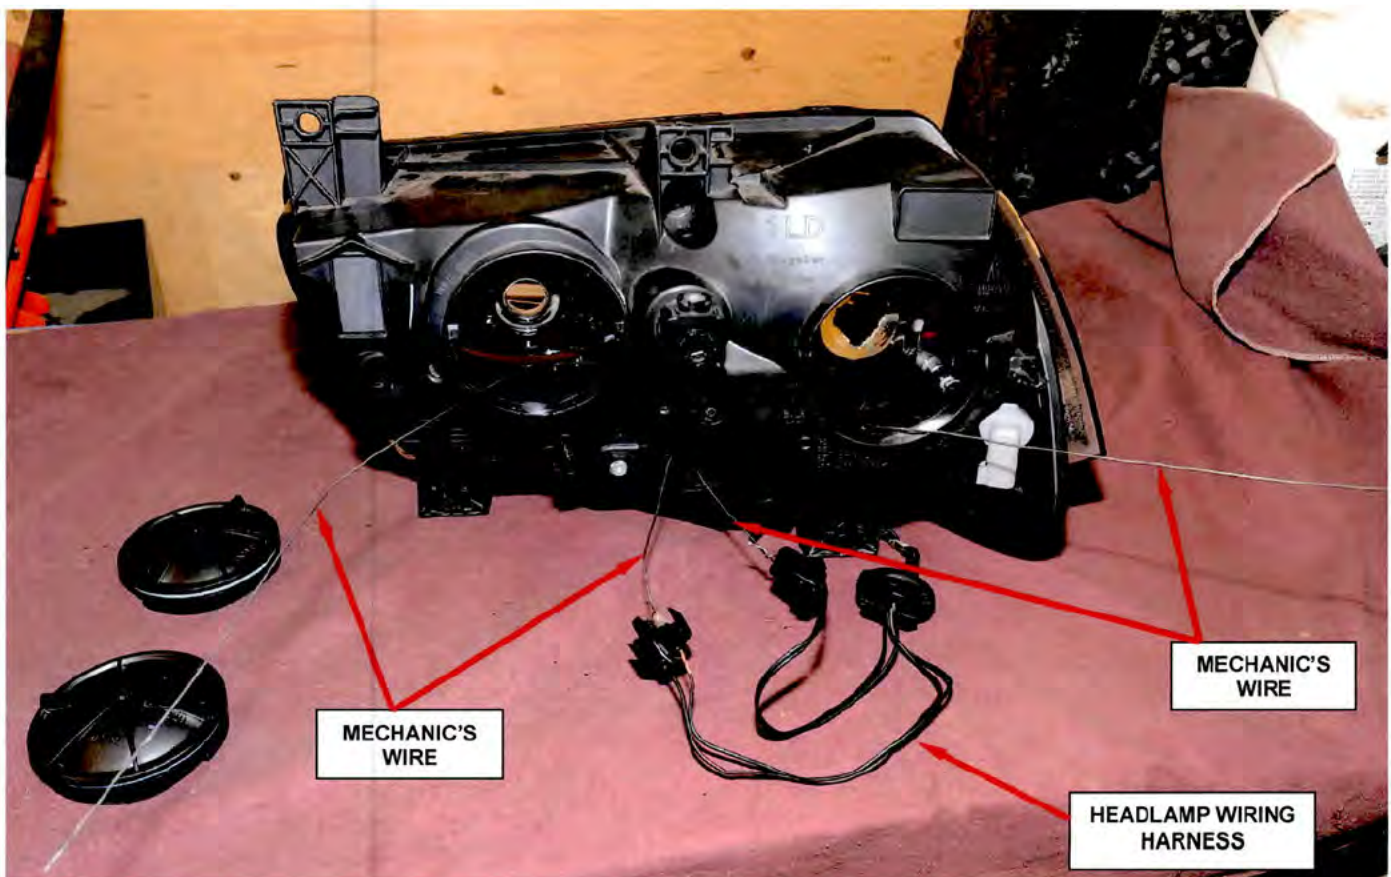

Figure 4 – Remove Original Headlamp Wiring Harness from Headlamp Assembly
8. Carefully guide the headlamp bulb wiring harnesses out of the headlamp housing with the mechanic's wire attached (Figure 4).
12. Using the mechanic's wire, pull the new headlamp wiring harness into position inside the headlamp housing (Figure 4).